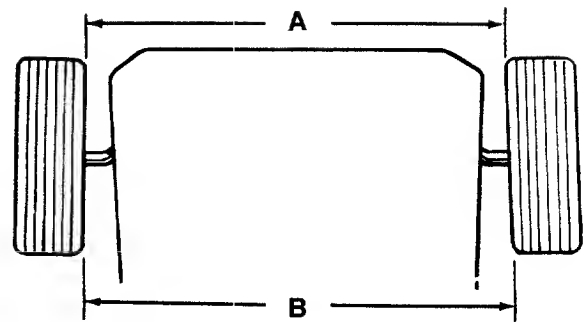

FIGURE 8.
2. Adjust the tie rod in or out until the wheels toe-in approximately  $\frac{1}{8}$ " (Dimension "A" should be approximately  $\frac{1}{8}$ " less than dimension "B"). See figure 8.